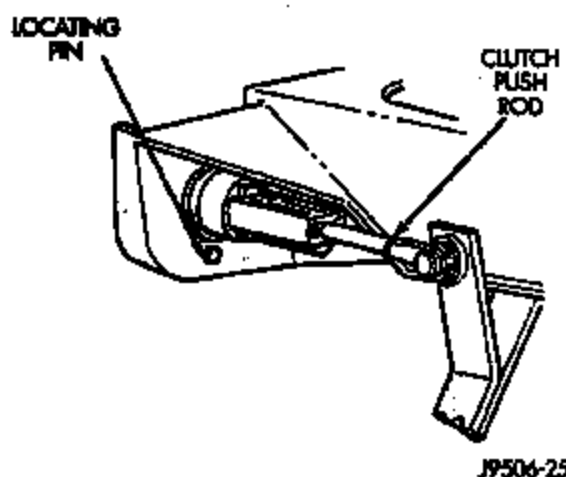

Figure 2
8. For 1994-1997 vehicles, remove the locating pin that secures the master cylinder to the dash panel (Figure 2).
22. For 1994-1997 vehicles, install the original locating pin to secure the master cylinder to the dash panel (Figure 2).